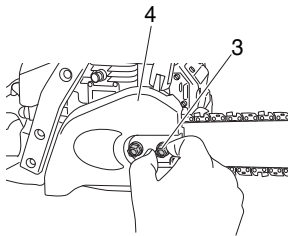

Fig. 3
2. Remove guide bar clamp nuts (3). Remove the side case (4). (Fig. 3)
The brake lever (11) of the side case must fit the groove (10) on the side of the front hand guard. Then tighten the guide bar clamp nuts (3) by hand that allows the guide bar end to move up and down easily. (Fig. 3)